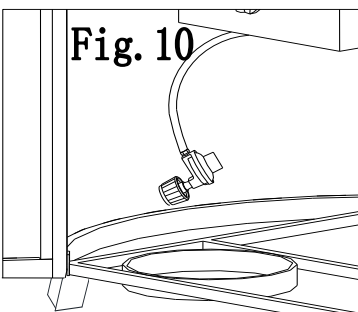

Fig. 10
- 1- Open the door and put the chain and control valve outside. See Fig 10.